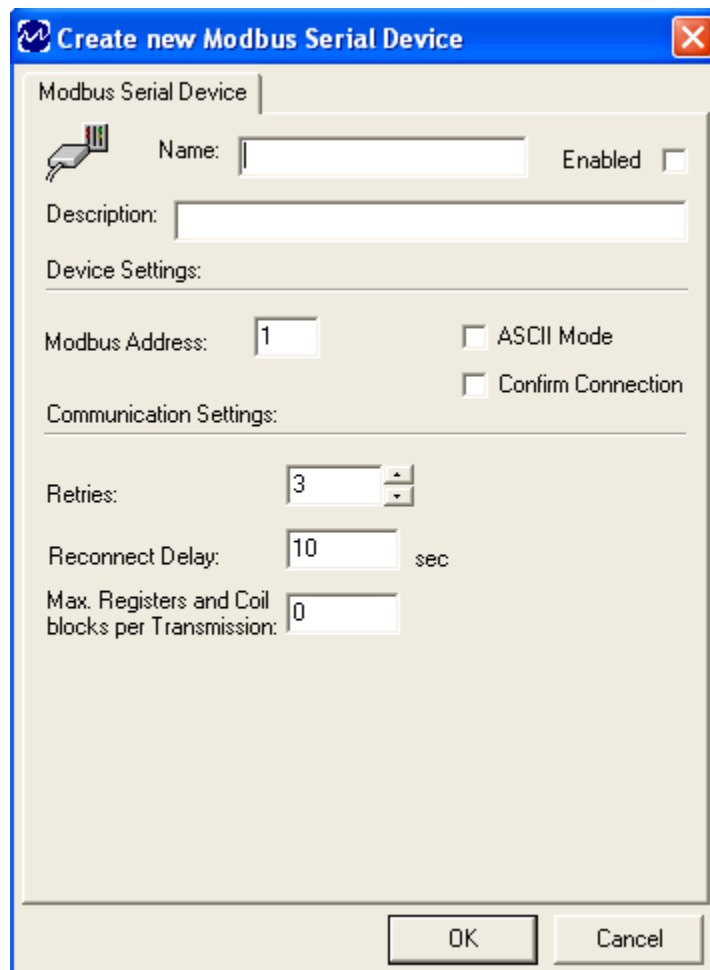

Figure 5 - Create New Modbus Serial Device Window
The **Create New** window (Figure 5) displays the settings available for a connection to a **Modbus Serial Device**.
- The **Create New** window (Figure 5) appears.